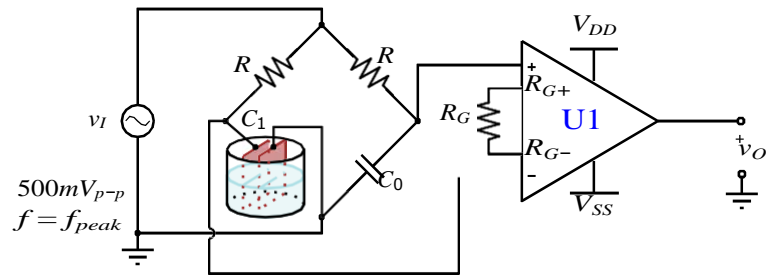

Figure 5: Top-Level System Schematic.
**Step 3:** Top-Level system architecture is shown in Figure 5. “U1” represents the instrumentation amplifier, which is a type of differential amplifier mostly used in applications where great accuracy is needed. You may purchase an instrumentation amplifier (AD620, INA114 etc..) or build your own instrumentation amplifier with standard opamps as a low-cost solution1. Set  $R_G$  such that the gain of instrumentation amplifier is high enough to measure the output. A gain of 5 to 10 may be enough for good signal separation on the oscilloscope. Apply a  $500mV_{p-p}$  sinewave with a frequency  $f_{peak}$  found in Step 2. Replace  $C_0$  and  $R$  with the values found in Step 1 & 2. Set DC positive ( $V_{DD}$ ) and negative ( $V_{SS}$ ) power supplies to an appropriate value using the datasheet of your amplifier.